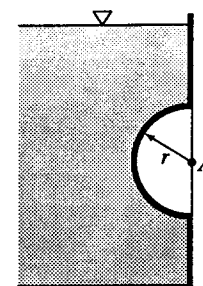

Figure X3.8.6
3.8.6 The hemispherical body shown in Fig. X3.8.6 ( $r = 2$  ft) projects into a tank. Find the horizontal and vertical forces acting on the hemispherical projection for the following cases: (a) the tank is full of water with the free surface 5 ft above A; (b) the tank contains  $\text{CCl}_4$  ( $s = 1.59$ ) to the level of A overlain with water having its free surface 5 ft above A; (c) the tank is closed and contains only gas at a pressure of 6 psi; (d) the tank is closed and contains water to the level of A overlain with gas at a pressure of 2 psi. Assume the gas weighs  $0.075 \text{ lb/ft}^3$ .